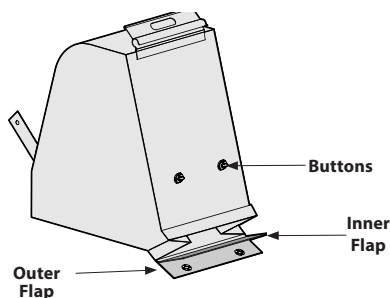

Figure 11
- Twist the two buttons on the back of the bag to unlock and empty contents. See Figure 11. Hold bag handle and bag clip while emptying the contents.
- Fold outer flap over inner flap and insert buttons on the bag through metal outlets. See Figure 11.
- Place nozzle/hose vac lever in the top position on the nozzle to vacuum through nozzle. See Figure 11.